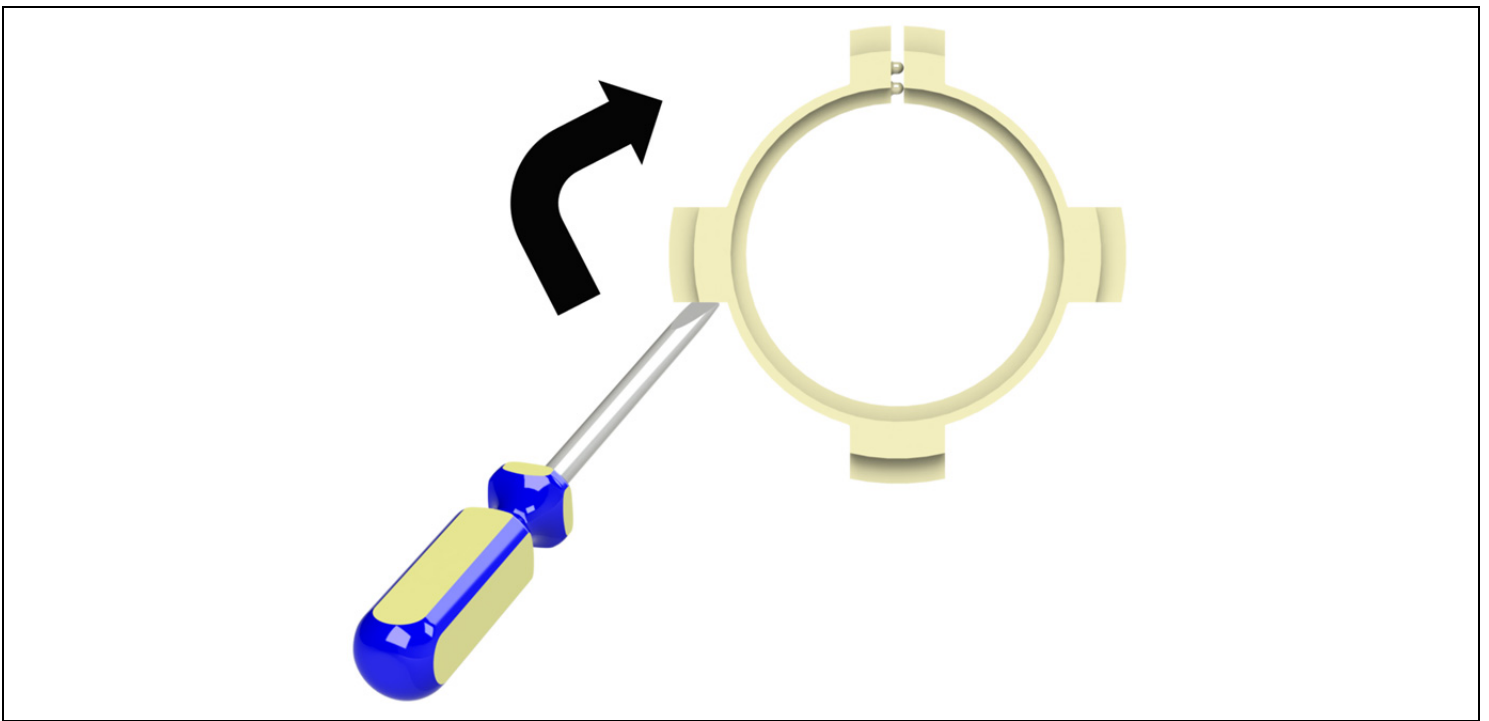
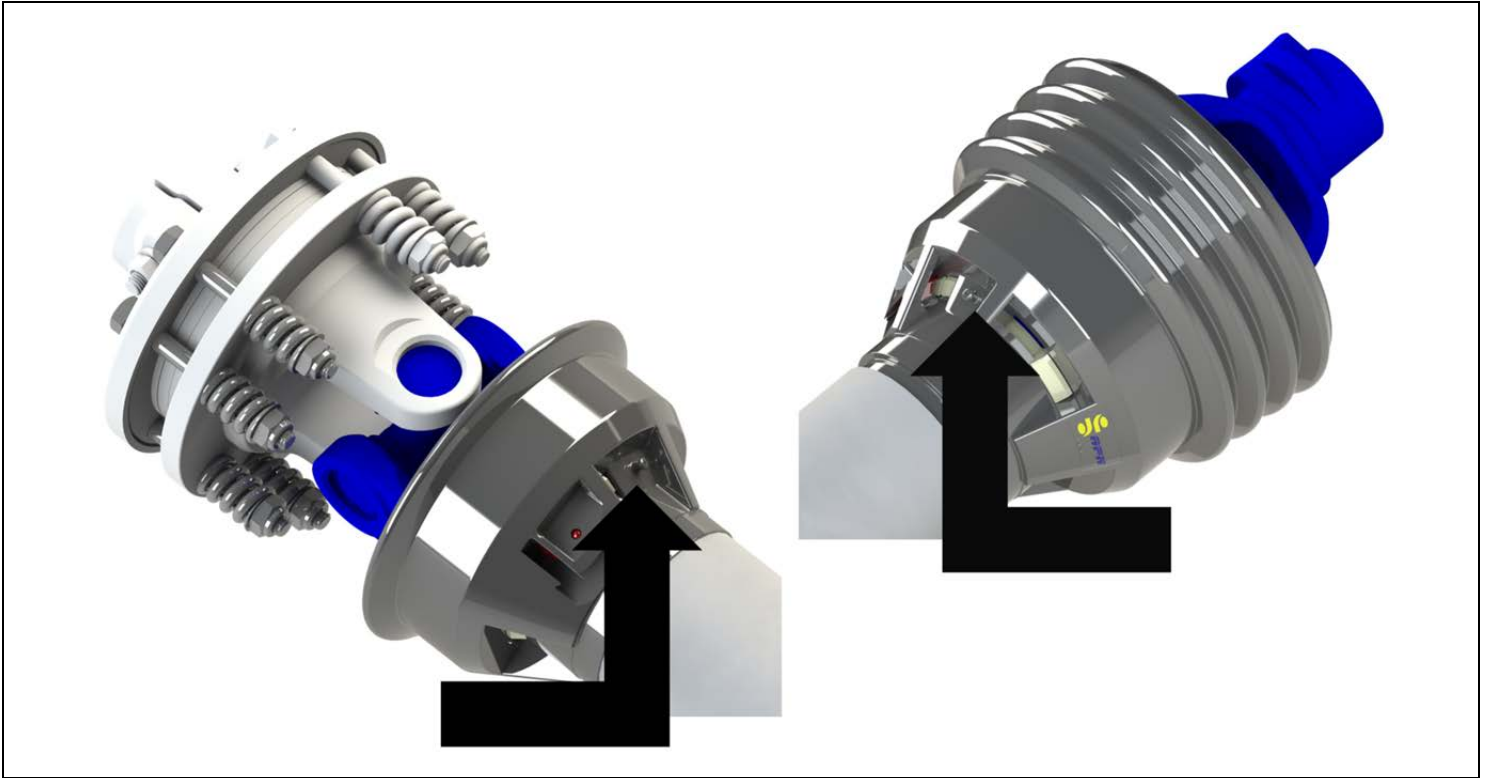
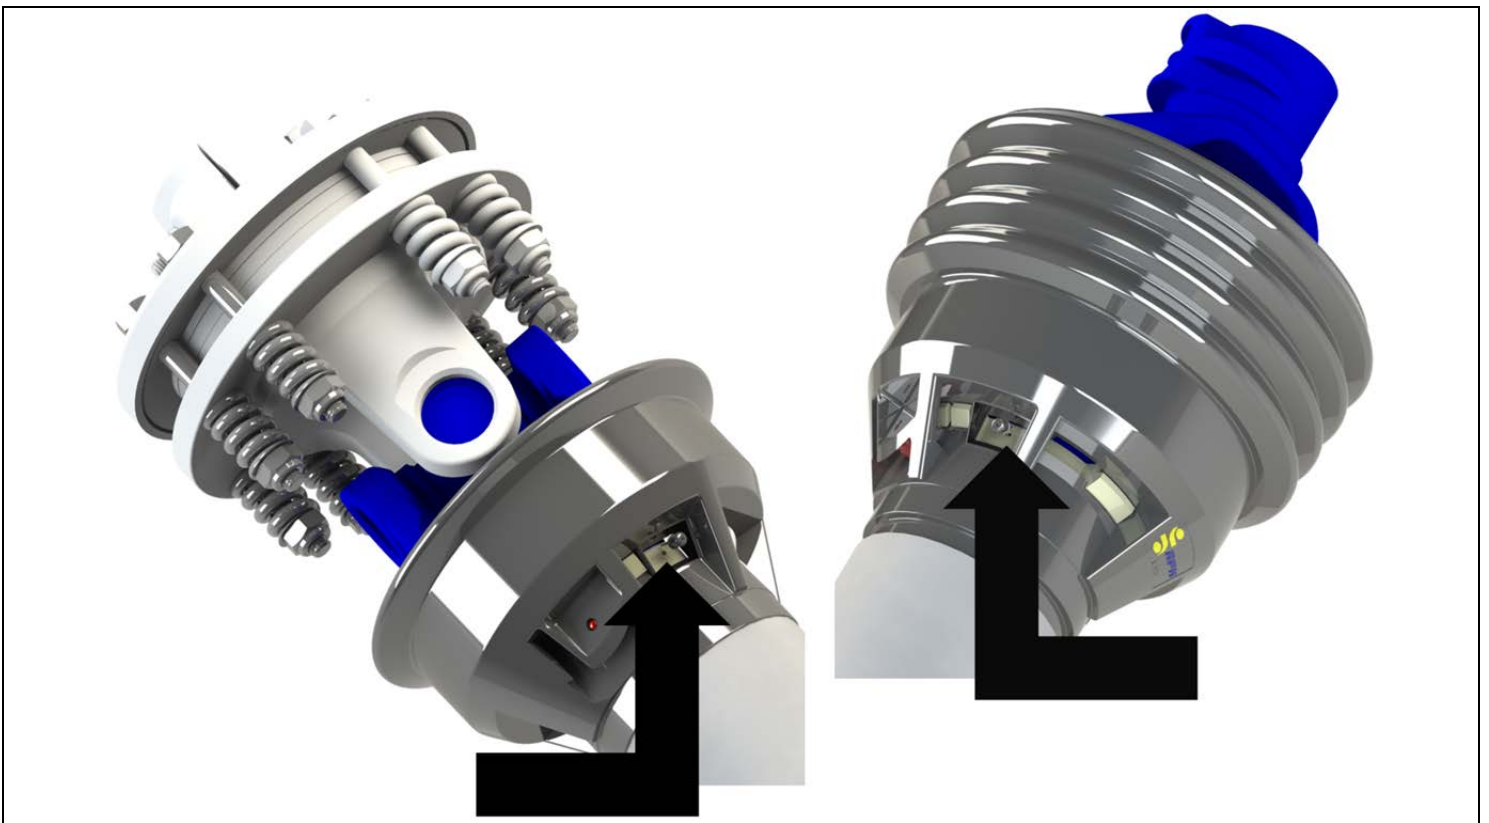

Figure 24. Assembly Step 4
Figure 25. Assembly Step 4
Figure 26. Assembly Step 4
4. Locate the bearing tabs at either end of the driveline. Insert a flat head screwdriver into the groove indicated in *Figure 24*, below. Rotate the bearing tab approximately an eighth of a turn in the clockwise direction. Ensure the shield grease ports are aligned properly with the bearing grease holes. For further clarification, please refer to *Figure 25* and *Figure 26*, below.